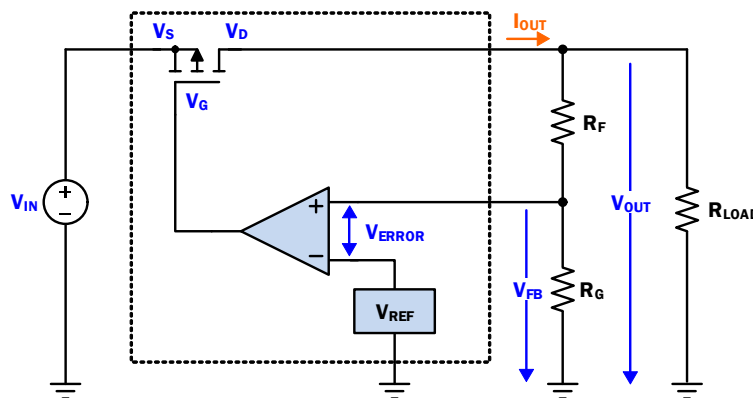

Figure 74. Simple PMOS LDO Regulator Block Diagram
Like the majority of LDOs with a PMOS pass transistor, the RAA214250 DC output voltage (V_{OUT}) regulation can be modeled with a voltage reference (V_{REF}), PMOS pass-transistor, error amplifier and feedback (FB) resistors as shown in Figure 74.